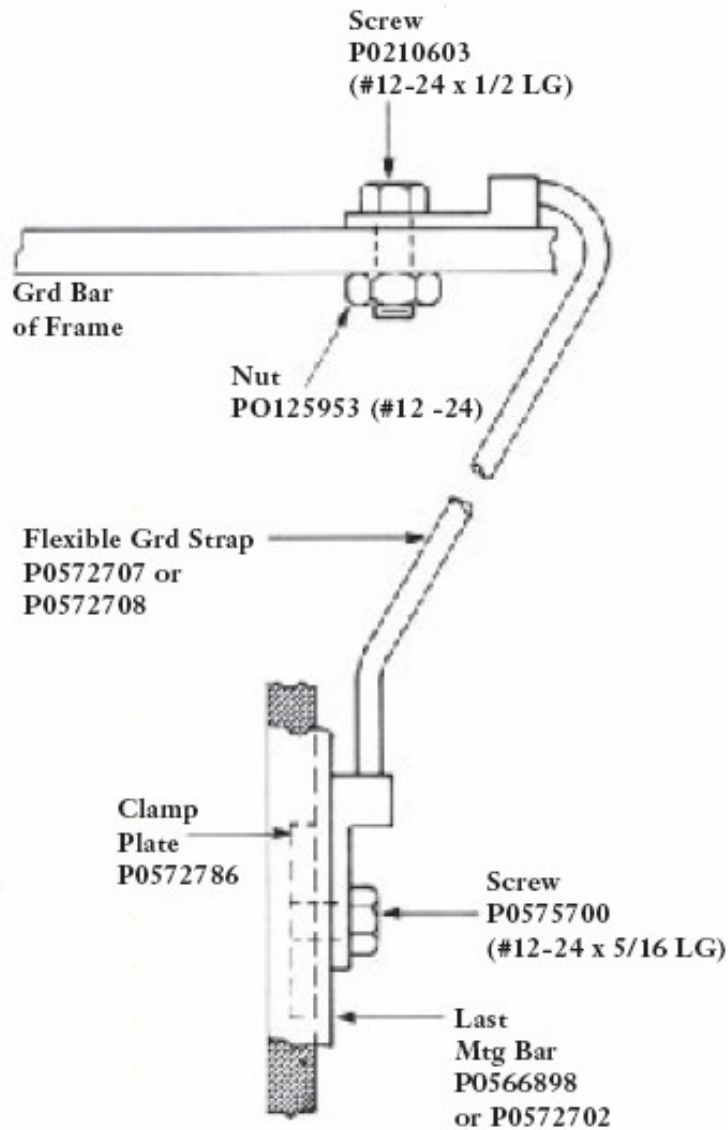

Figure 6 — Top Flexible Ground Arrangement
6.9 Using flexible ground strap and clamp plate, connect the mounting bar kit to the ground bar of frame (Figure 6).